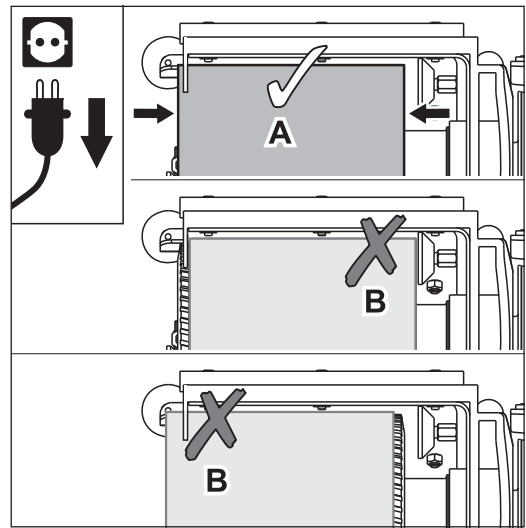

Fig. 31 Position the sanding belt so that it evenly covers the sanding drum (A). Avoid position B without fail (risk of fire)!
- 7 Position the sanding belt so that it evenly covers the sanding drum (Fig. 31, A).
Position B of the sanding belt in Fig. 31 provoke sparking during sanding! Avoid this without fail!